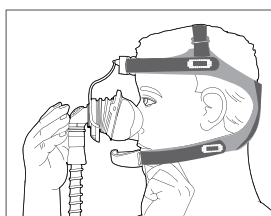

Figure 3
4. Hold the mask cushion over your nose and reconnect the headgear clip after you have the headgear in position (Figure 3).